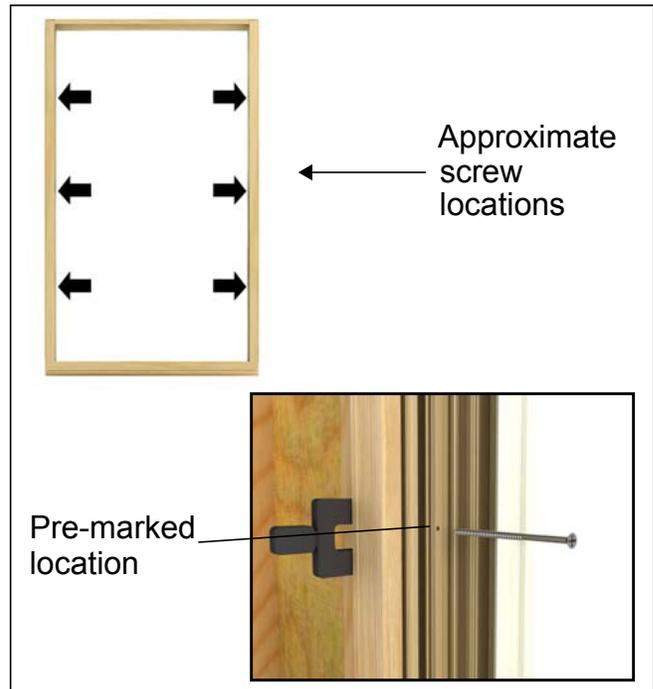

Figure 4
2. Center the window in the opening. Jambs need to be straight and level. Apply #8 X 3" screws until snug through the pre-marked holes, do not over tighten, to permanently secure the unit to the framing members. See figure 4. Do not apply screws to large jamb receiver locating hole.